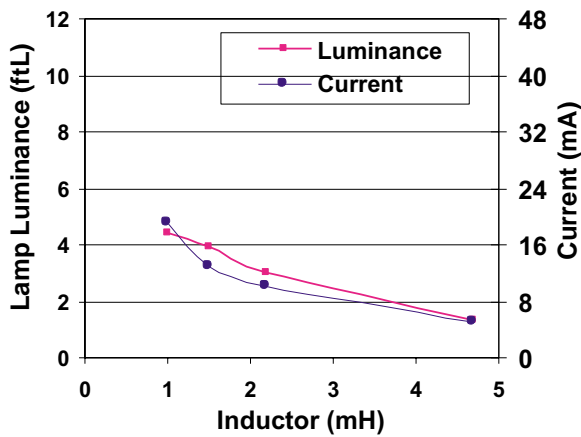

Figure 3: V+=1.5V, 1 in² EL Lamp
The external inductor (L) selection for a D356A circuit greatly affects the output capability and current draw of the driver. A careful designer will balance current draw considerations with output performance in the choice of an ideal inductor for a particular application. Figures 3, 4, and 5 show typical brightness and current draw of a D356A circuit with different inductor values, lamp sizes, and supply voltages. Please note that the DC resistance (DCR) of inductors with the same nominal inductance value may vary with manufacturer and inductor type. Thus, inductors made by a different manufacturer may yield different outputs, but the trend of the different curves should be similar. Lamp luminance is also a function of lamp size. In each example, a larger lamp will have less luminance with approximately the same current draw.